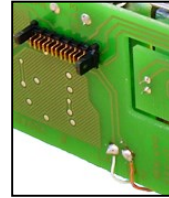

Figure 3-70. Solder points on Position Sensor Board.
11. Solder the two small wires to the solder points on the bottom of the Position Sensor Board, and the two on the top. The two on the bottom must be re-soldered in the same positions as pictured in Figure 3-70: white on left, red on right. The two wires on the top connect to the Temperature Sensor. Their order is not important.